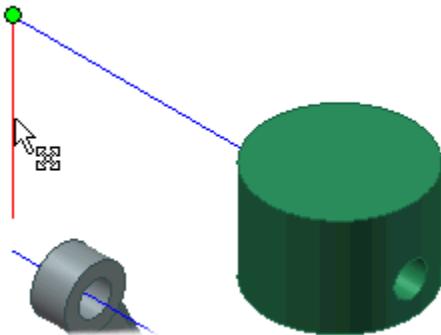

Figure 10: Trail selected for editing.
1. Click the vertical trail attached to the piston (see Figure 10).